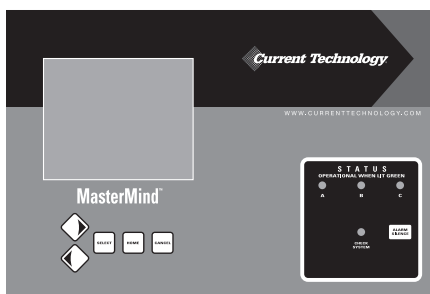

Figure 12
► If your SL3 is equipped with the Mastermind® Advanced Monitoring Option (see Figure 12) Please refer to the Mastermind manual for Specifications and Operation.